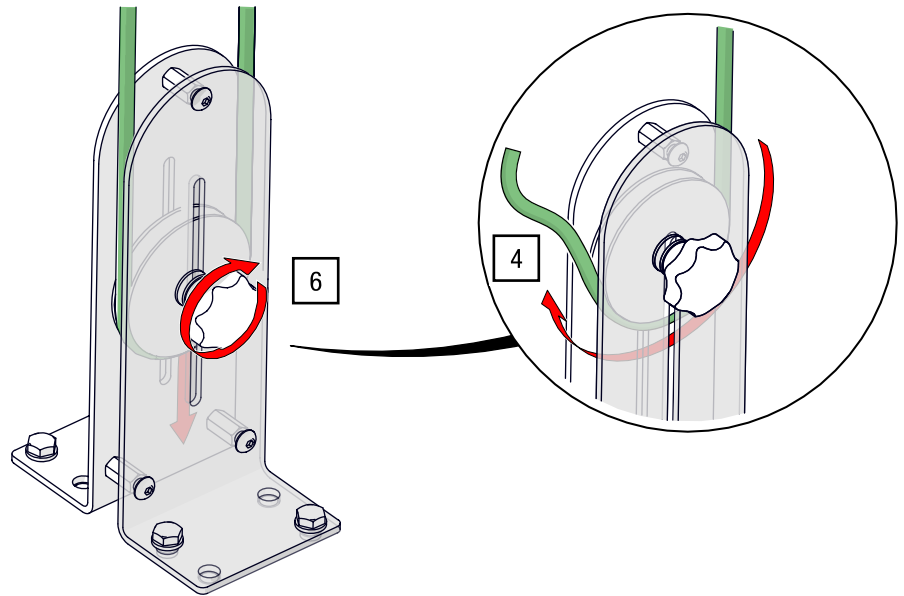

Fig. 88: Guide cord through counter-tension pulley and tension
4. Guide the cord end up through the counter-tension pulley (see Fig. 88)